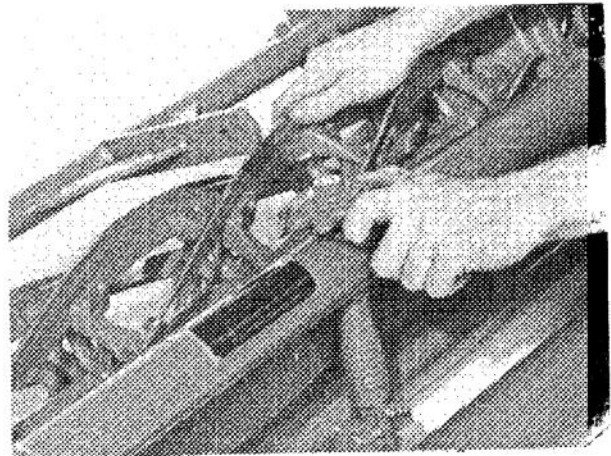

Figure 8
2. Insert a long strip of newspaper between reel blade and end of bedknife. While rotating reel backward, turn bedknife adjusting knob (Fig. 8) until paper is pinched lightly, which results in the paper being cut or a slight drag when paper is pulled.